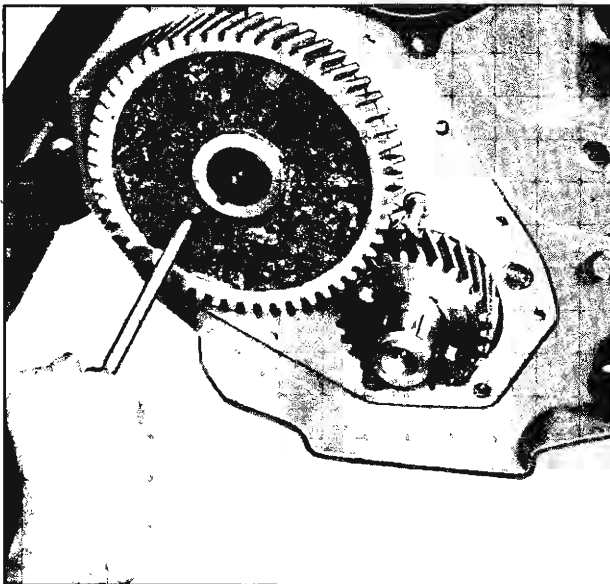

Fig. 22—Removing Camshaft Thrust Plate Screws
8. Remove the two camshaft thrust plate screws by working through holes in the camshaft gear (fig. 22).
7. Remove the two camshaft thrust plate screws by working through holes in the camshaft gear (fig. 22).